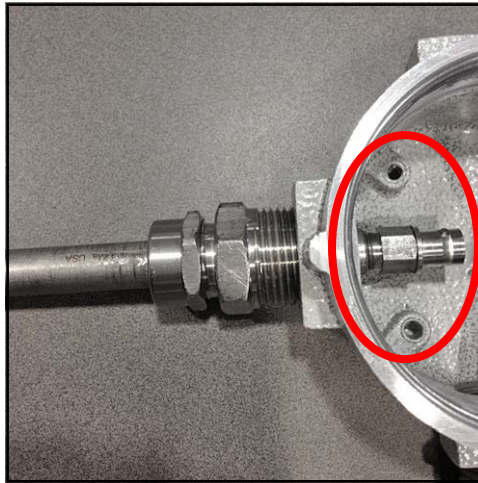

Figure 8: Torquing Reducer into NPT Port
2. Torque the fitting into one of the 3/4" NPT ports of the junction box, with at least five threads engaged. After the fitting is torqued into place, ensure that the BNC head of the transducer extends slightly past the ground screw bosses as shown in *Figure 8* below: